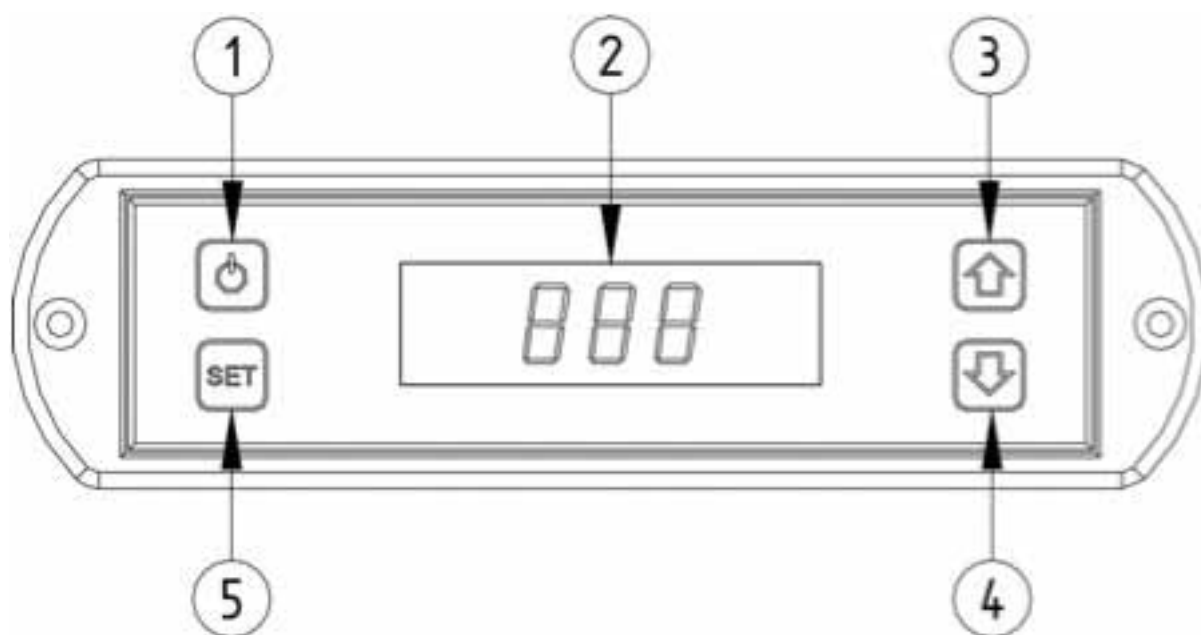

Fig. 12. Display
2. Power by switching on the ON/OFF main power button, no. 1 (see fig. 12) and check that the display is turned on;
3. Press button no. 4 (see fig. 12) to start up the fuel supplying auger, and keep it pressed down until the auger itself is full (to check that the auger is full it is sufficient to verify that the pellets have begun to flow from the discharge connection of the auger, through the flexible pellet feeding tube, to the burner); when the auger is full release button no.4;